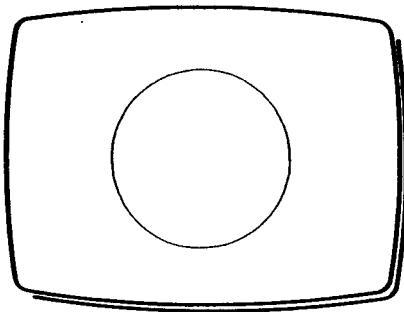

Fig 2
- 6 **P**ress and release **T** to draw the circle (Fig 2).